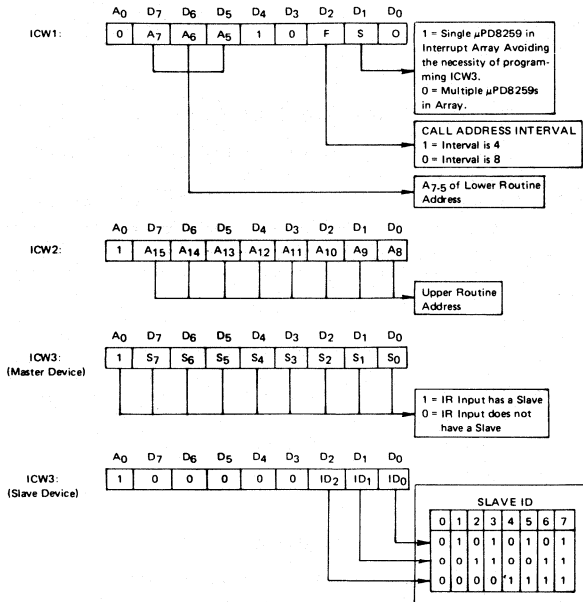

FIGURE 2
Each μPD8259 in the interrupt array must be initialized prior to normal operation. The initialization is performed by a 2 or 3-byte sequence clocked by WR pulses. Figure 1 shows this sequence. (Refer to Figure 2 for bit definitions.)
- Notes: ① Reference Figure 2
When operating in interrupt modes where the priority order of the interrupt inputs is not preserved (e.g., rotating priority mode) the last serviced interrupt level may not be known. In these modes a Specific End-of-Interrupt must be issued to clear the ISR bit at the completion of the interrupt service routine. The SEOI is programmed by setting the appropriate bits in OCW3 (Figure 2) to logic "1"s. Both the EOI and SEOI bits of OCW3 must be set to a logic "1" with L2, L1, L0 forming the binary code of the ISR bit to be reset.